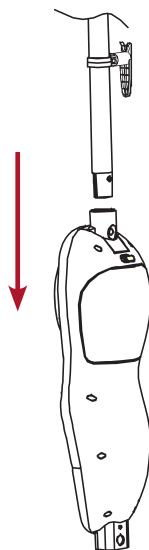

Figure 2
**STEP 2:** Insert the assembled handle section into the steam cleaner main body until it clicks into place (figure 2).